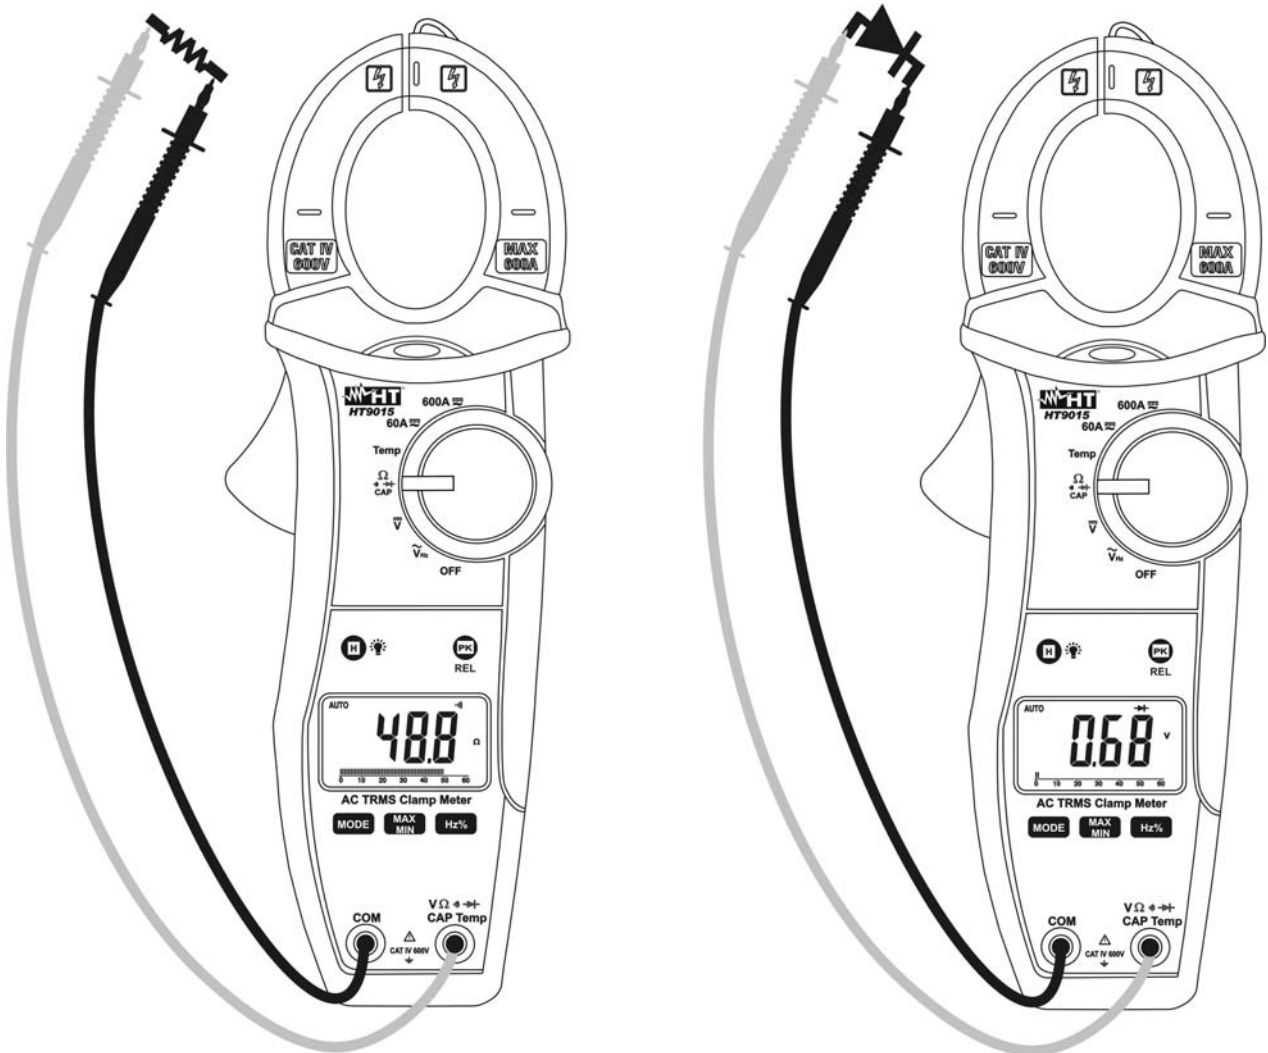

Fig. 6: Taking Continuity test and Diode test
3. Insert the red test lead plug into **V $\Omega \rightarrow \text{CAP}$ Hz%** jack and the black test lead plug into **COM** jack and perform continuity test on the object under test (see Fig. 6 – left side). Buzzer emits sound if the measured resistance value is less about 60Ω
5. Connect the red test leads to the anode of diode on test and the black test lead on the cathode ones (see Fig. 6 – right side). Reverse position of test leads to reading reverse polarization voltage